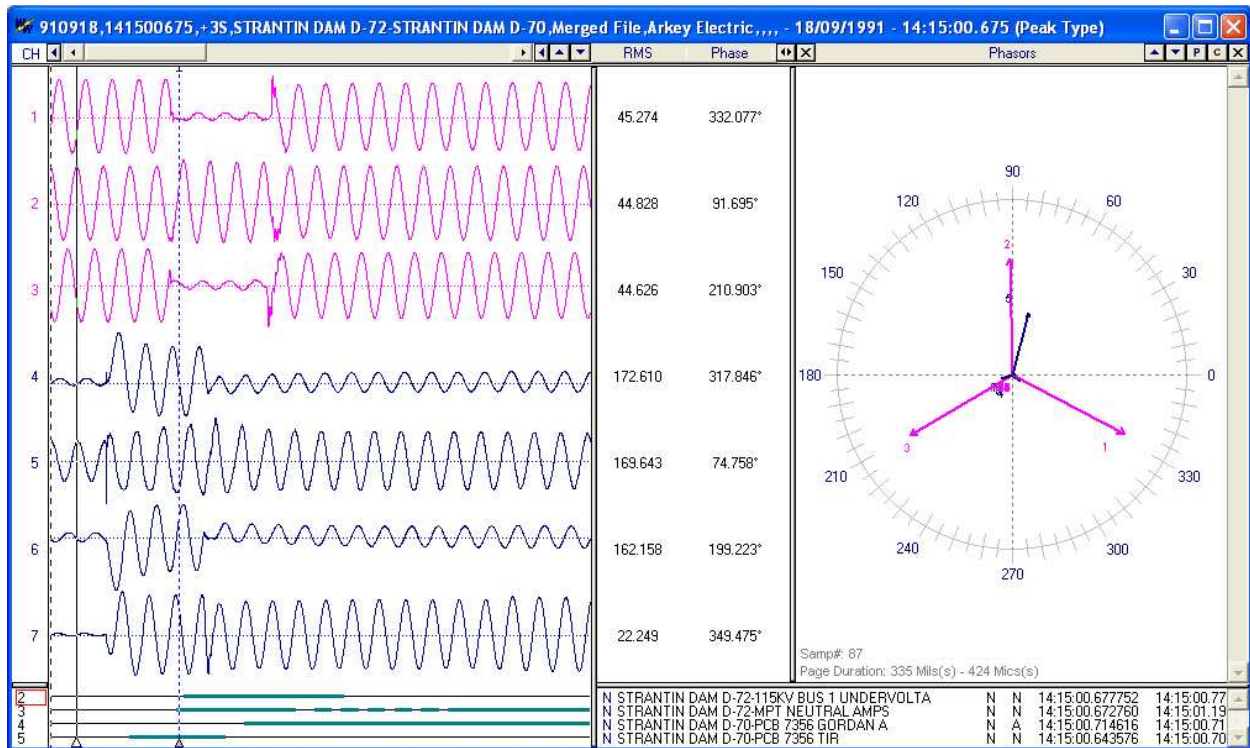

Figure 5.24 Merge Open Files – Result: By Sample (As Applied to Figure 1.70)
- By Sample: Merge without regard to time stamps and/or data bar positions. The reference time is taken from the active window. The file with the least number of samples determines the length of the file. Refer to Figure 5.24.